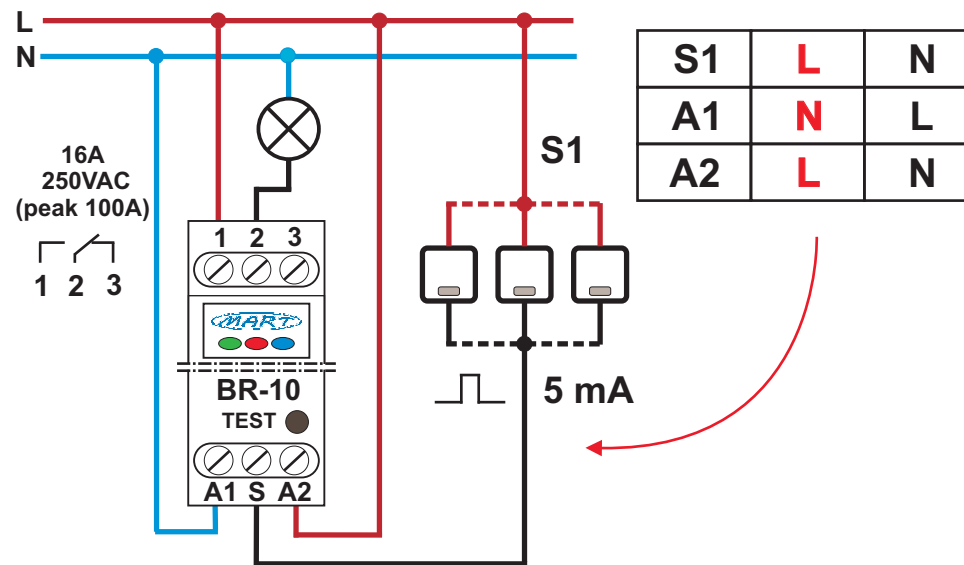

Fig. 2. An exemplary diagram of the connection of the BISTABLE RELAY BR-10 along with a table of possible connection variants.
2. connect the RELAY according to the diagram (fig.2, fig.3) in the options: